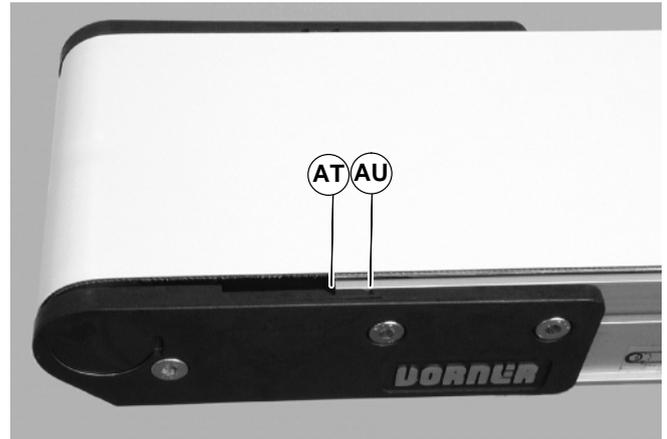

Figure 26
2. Adjust head plate assembly so end of conveyor frame aligns with or between the head plate tensioning marks (AT & AU of Figure 26). Replace belt if proper tensioning can not be obtained while aligning